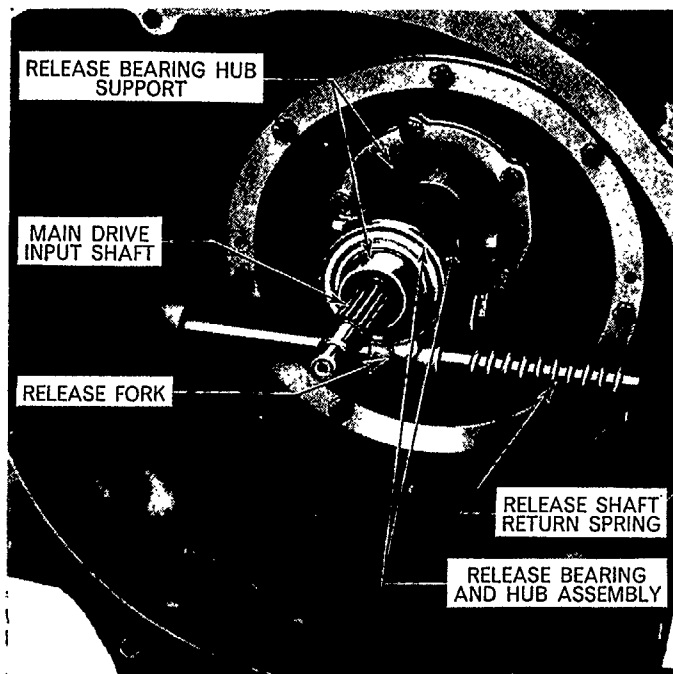

Figure 9
4. Lever the release shaft return spring off the cast lug on the inside of the front end of the transmission case, Figure 9.